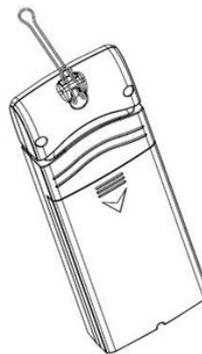

Figure 7
2. Hang the remote sensor up on string, as shown in Figure 7.